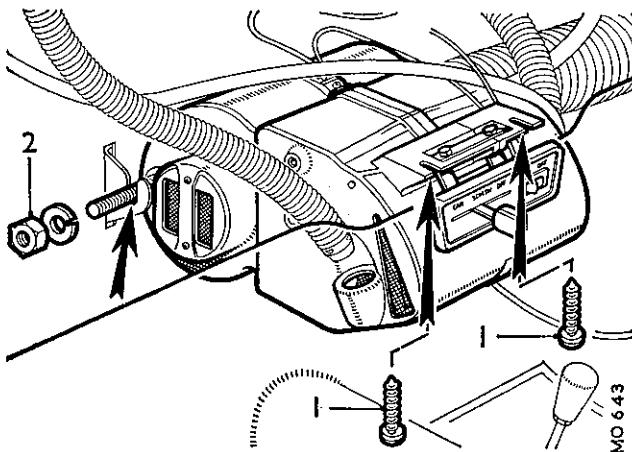

Fig. Rb.1
- (1) Drain the cooling system (Section C.1).
- (2) Remove the front floor covering to avoid damage by coolant when disconnecting the heater pipes.
- (3) Pull the demister and air intake tubes out of the heater unit.
- (4) Remove the two screws (1) securing the front of the heater and slacken the nut (2) securing the rear of the unit (Fig. Rb.1).
- (5) Disconnect the electrical connections from the blower motor and switch.
- (6) Disconnect the heater water hoses, hold the fingers over the matrix pipes and lift the heater from the slotted rear bracket and out of the car. Drain the coolant from the heater.